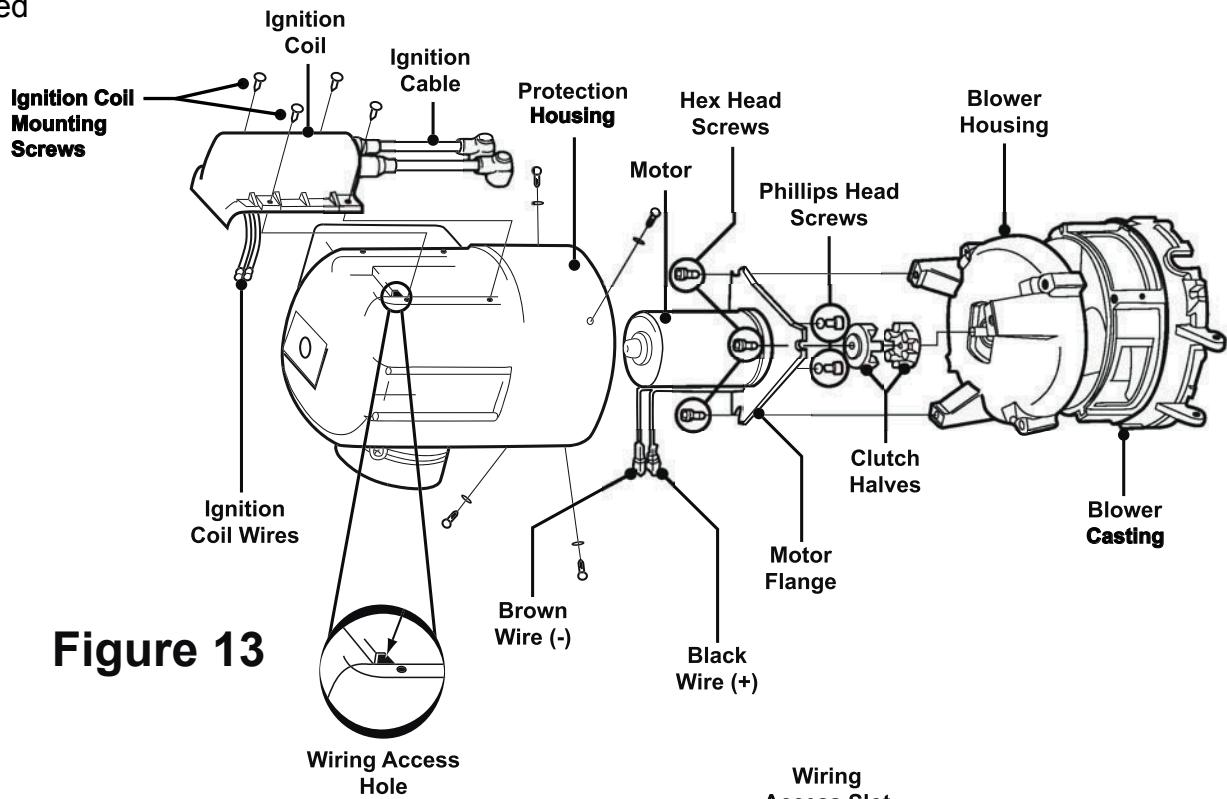
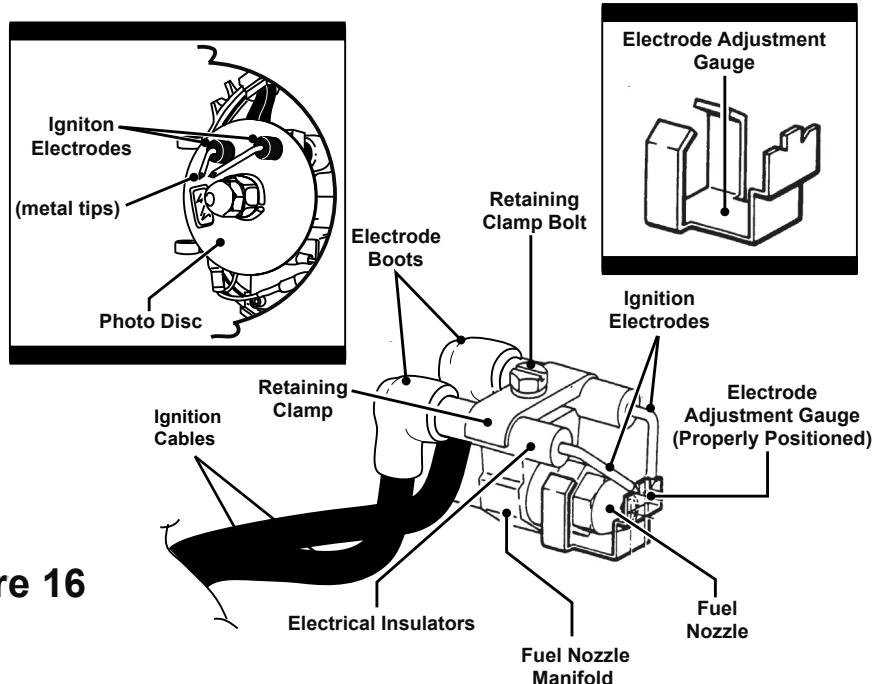
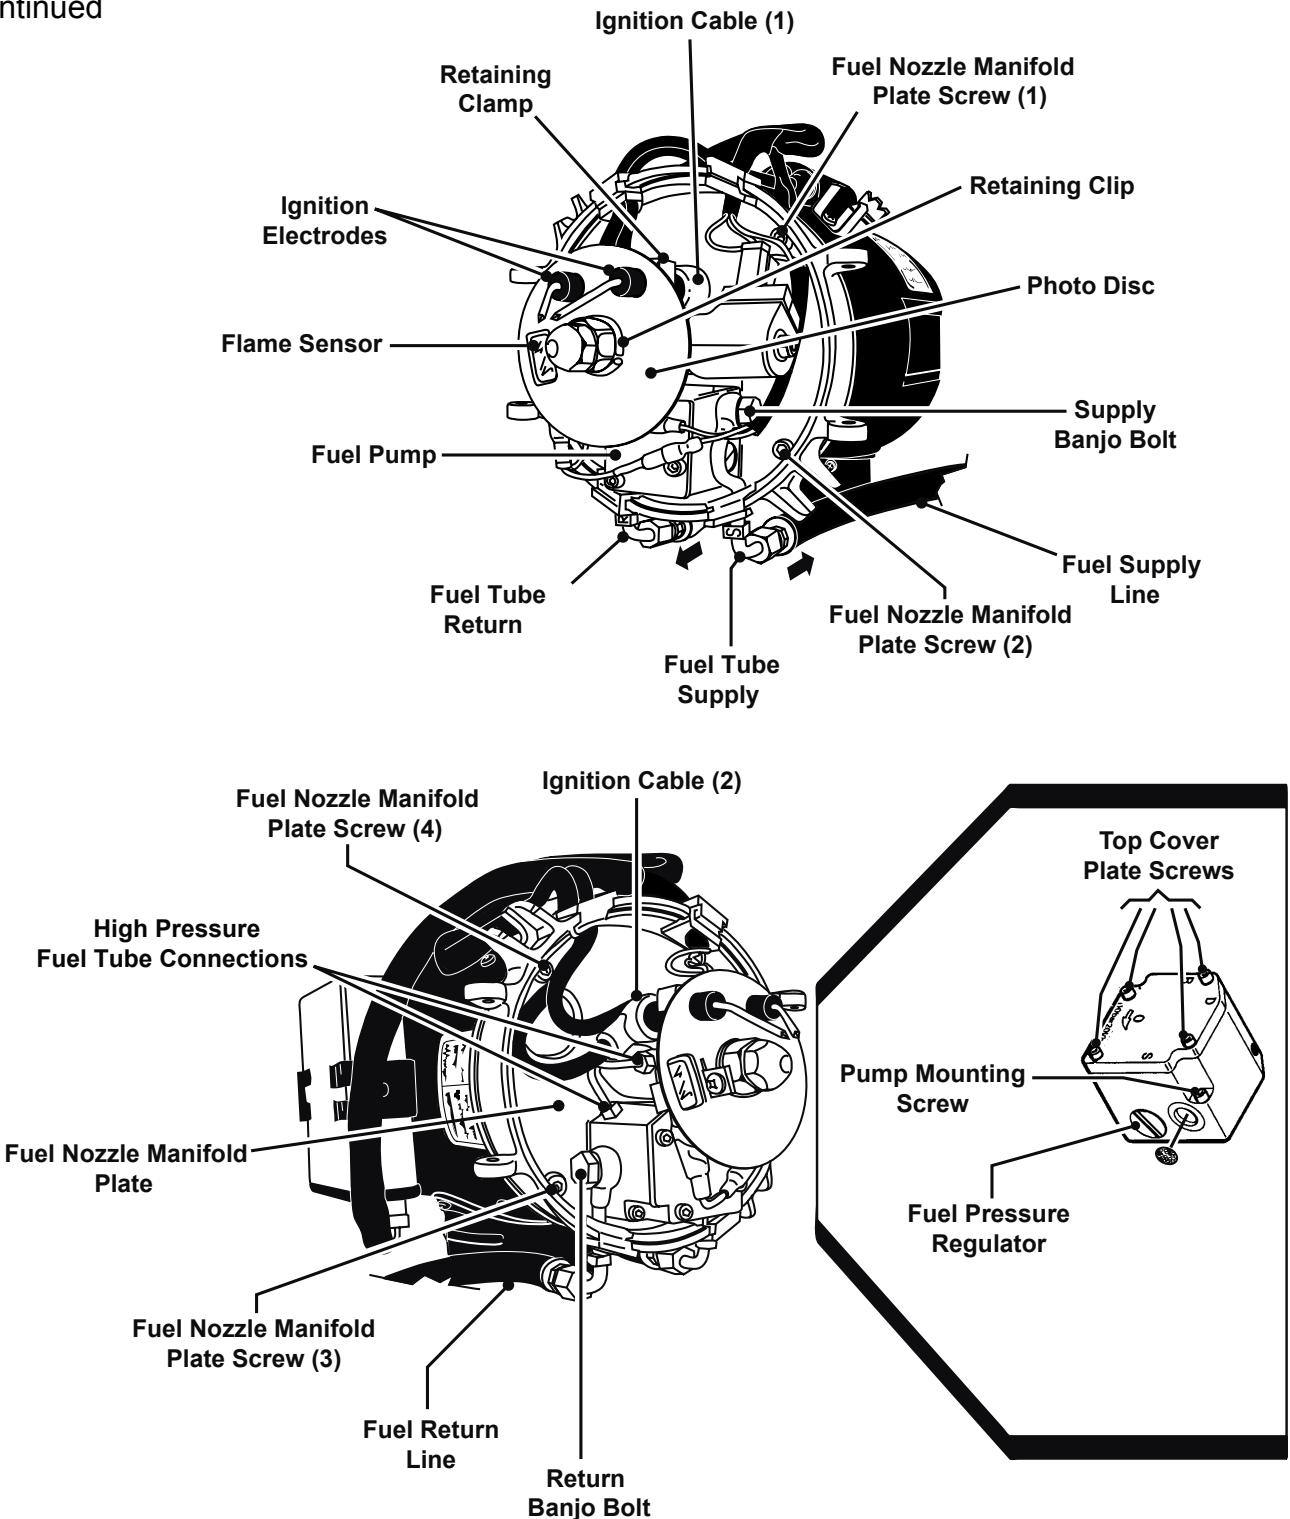

Figure 13
Figure 16
Figure 19
RPM Test: Disconnect the *Ignition Cables* from the *Ignition Electrodes*; reference Figure 16. Remove the four *Ignition Coil Screws*, which secure the *Ignition Coil* to the *Protection Housing*; reference Figure 13. Lift the *Ignition Coil* and disconnect its wires from the C-Plug Harness wires prior to removing. Remove the *Protection Housing* from the *Diesel-Burner*, allowing the *Motor and Clutch Halves* to be exposed; reference Figures 12 and 13. Place a few wraps of black electrical tape around the *Clutch Halves*, then, place a small piece of reflective tape over the black tape as illustrated in Figure 12. Disconnect the Motor's *Black (+)* and *Brown (-)* wires from the C-Plug Harnesses' *Black (+)* and *Brown (-)* wires; reference Figures 12 and 13. Connect the Motor's wires directly to a 12 Volt-DC power supply; reference Figure 12. Turn the power supply **ON** and use a photo-tachometer to test for a proper RPM reading; reference Figure 12. At approximately 12.5 Volts-DC, the RPM reading should be 4500 RPMs (+/- 300 RPMs). If the Motor's RPM reading is not within the above specs, the Motor must be replaced; reference the Motor's Replacement Procedure" in this section. Reference Section 10 for spare part number information.
1. Remove the four *Ignition Coil Mounting Screws*, which secure the *Ignition Coil* to the *Protection Housing*; reference Figure 13. Lift the *Ignition Coil* to disconnect its wires from the C-Plug Harness wires prior to removing. Remove the *Protection Housing* from the *Diesel-Burner* to expose the *Motor* and *Clutch Halves*; reference Figures 13 and 14.
2. Remove the three *Hex Head Screws*, which secure the *Motor* and flange assembly to the *Blower Housing*; reference Figure 13. Remove the *Motor* and flange assembly along with the *Clutch Halves*; reference Figures 13 and 14. Disconnect the *Motor*'s *Black (+)* and *Brown (-)* wires from the C-Plug Harness' wires; reference Figure 13.
3. Detach the *Motor* from the *Motor Flange* by removing the two *Phillips Head Screws*, which fasten the two parts together; reference Figure 13.
5. Connect the *Black (+)* and *Brown (-)* wires of the new *Motor* to the C-Plug Harness' *Black (+)* and *Brown (-)* wires; reference Figure 13. Feed the C-Plug Harness' *Yellow* and *Brown* wires back through the *Wiring Access Hole* in the *Protection Housing*; reference Figure 13.
6. Reinstall the *Protection Housing*. Reconnect the *Black (+)* and *Brown (-)* wires of the *Ignition Coil* to the C-Plug Harness' *Yellow (+)* and *Brown (-)* wires; reference Figure 24. Reinstall the *Ignition Coil* and secure to the *Protection Housing* with the four *Ignition Coil Mounting Screws*; reference Figure 13.
Cleaning Tips/Maintenance: Polish away any carbon deposits, which may have baked onto the metal tips of the *Ignition Electrodes* with a Scotch Brite® pad (or similar); reference Figure 16. If the Ignition Electrode's *electrical insulator* (reference Figure 16) is cracked and/or damaged, the *Ignition Electrode* must be replaced; reference the Ignition Electrode "Replacement Procedure" in this section. Reference Section 10 for spare parts information.
1. Slightly loosen the *Retaining Clamp Bolt*; reference Figure 16.
into the appropriate notches of the *Electrode Adjustment Gauge* as illustrated in Figure 16.
1. Disconnect the *Ignition Cables* from the *Ignition Electrodes* and slightly loosen the *Retaining Clamp Bolt* just enough to allow the *Ignition Electrodes* to be removed; reference Figure 16.
3. Perform Steps 2 through 4 of this section's "Adjustment Procedure" to complete the *Ignition Electrode* installation. Once Steps 2 through 4 have been performed, reconnect the *Ignition Cables* to the *Ignition Electrodes*; reference Figure 16.
Component Test: Remove both *Ignition Cables* from the *Ignition Electrodes*; reference Figure 16.
WARNING: Failure to remove the *Ignition Cables/Electrode Boots* from the *Ignition Electrodes* (reference Figure 16), will result in a **HIGH VOLTAGE** shock and/or a fire. Also, be sure to place a piece of electrical tape on the end of each Electrode Boot.
1. Disconnect the *Ignition Cables* from the *Ignition Electrodes* and loosen the *Retaining Clamp Bolt*; reference Figure 16.
2. Remove the *Retaining Clip*, which secures the *Photo Disc* in place. Gently lift the *Photo Disc* (with *Flame Sensor* attached) so that it releases from the *Fuel Nozzle Manifold* and the *Ignition Electrodes*; reference Figures 16 and 19.
4. Remove the four *Fuel Nozzle Manifold Plate Screws*, which secure the *Fuel Nozzle Manifold Plate* in place; reference Figure 19. Remove the *Fuel Nozzle Manifold Plate* by pulling on the *Fuel Nozzle Manifold* until the plate releases from the cast-aluminum *Blower Casting*; reference Figures 13 and 19.
1. Check all *Fuel Connections* for tightness (i.e., *Banjo Bolts*, *High Pressure Fuel Pipe Connections*); reference Figure 19.
WARNING: A spark will appear across the *Ignition Electrodes* (reference Figure 16) for a brief moment after the *Diesel-Burner* has been activated. **DO NOT** attempt to make any fuel pressure adjustments until the spark has disappeared. Failure to do so may result in serious bodily injury (i.e., an electrical shock).
1. Locate and disconnect the C-Plug Harness *wires*, which connect to the *Flame Sensor* and the *Fuel Solenoid Valve*; reference Figures 3, 15, and 18. Also, disconnect the *Ignition Cables* from the *Ignition Electrodes*; reference Figures 16 and 19.
2. Remove the *Retaining Clip*, which secures the *Photo Disc* in place; reference Figure 19. Gently lift the *Photo Disc* (with *Flame Sensor* attached) so that it releases from the *Fuel Nozzle Manifold* and the *Ignition Electrodes*; reference Figures 16 and 19.
3. Clamp off both the *Fuel Supply Line* and *Return Line* from the *Diesel-Burner Head*; reference Figures 19 and 22. Loosen the *Supply* and *Return Banjo Bolts* to remove both Fuel Tubes (with the fuel lines attached) from the *Fuel Pump*; reference Figures 19 and 22. Also, disconnect the *High Pressure Fuel Tube* from both the *Fuel Pump* and the *Fuel Nozzle Manifold*; reference Figures 19 and 22. Discard the *High Pressure Fuel Tube*, *Gasket Rings*, *Banjo Bolts*, and *Grommets*, as these replacements are provided in the new Fuel Pump Kit. Reference Section 10 for spare parts information.
and secure in place with the four *Fuel Nozzle Manifold Plate Screws*. Install the new *Grommets* on both *Fuel Tubes* (Supply and Return) and secure the tubes to the *Fuel Pump* with the new *Banjo Bolts* and *Gasket Rings*; reference Figures 19 and 22.
- 8.** Reconnect the C-Plug Harness' *Violet* (+) and *Brown* (-) wires to the Fuel Solenoid's (+) and (-) *Electrical Terminals*; reference Figure 18. Insert both *Ignition Cables* into the new rubber *Grommet* and slide into the appropriate notch on the *Blower Casting*; reference Figure 19. Reconnect the *Ignition Cables* to the *Ignition Electrodes*, then remove the fuel line clamps from both the *Fuel Return Line* and the *Fuel Supply Line*; reference Figure 19.
- 9.** Reinstall the *Photo Disc* and secure it in place with the *Retaining Clip*; reference Figure 19. Reconnect the Flame Sensor's *Green* wire to the *Green* C-Plug Harness wire and the *Blue* wire to the C-Plug Harness' *Violet* wire; reference Figure 15.
1. Clamp off and remove the *Fuel Supply Line* and *Fuel Return Line* from the *Diesel-Burner Head*; reference Figures 19 and 22.
3. Remove the four *Fuel Nozzle Manifold Plate Screws*, which secure the *Fuel Nozzle Manifold Plate* in place; reference Figure 19. Remove the *Fuel Nozzle Manifold Plate* by pulling on the *Fuel Nozzle Manifold* until the plate releases from the cast-aluminum *Blower Casting*; reference Figures 13, 16, and 19.